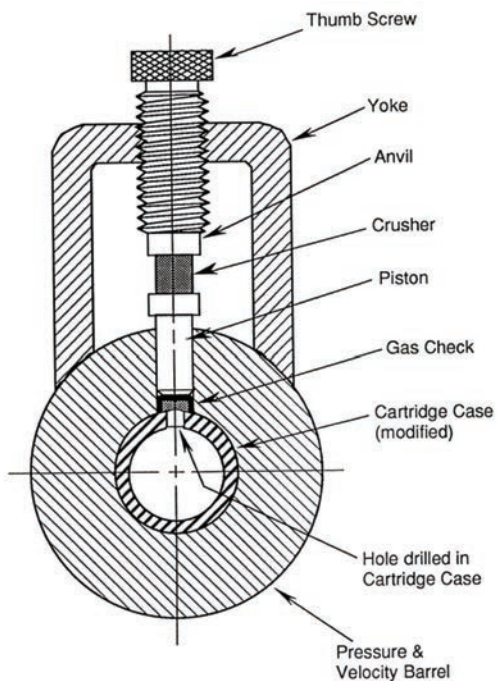

Figure 3 - Copper Crusher
Figure 3 on page 5 shows a cross-section of a typical copper crusher installed onto a pressure barrel. In this pressure measurement system, a small hole is drilled through one wall of the case in line with the piston hole, generally at mid-case location. The gas check, piston, and copper crusher are installed and retained with the thumb screw. When fired, the gases vent out through the drilled hole and expand the gas check into the piston hole, forming a seal. The resulting pressure acting on the piston forces the copper crusher into a permanent deformation. The crusher is removed and carefully measured. Tables supplied by the crusher manufacturers are used to convert the deformation into a relative value, called copper units of pressure (commonly referred to as "cups.")
- For measurements at this location, the copper crusher technique is also used (see Figure 3)